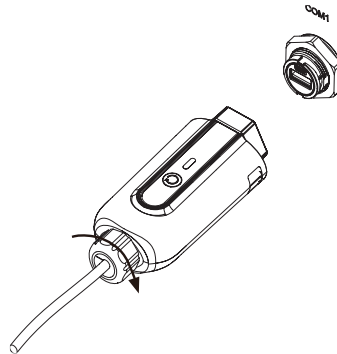

Figure 5-12
- Step5: Connect the "iNV-Logger A210" to the "COM1" as shown in the figure 5-12.